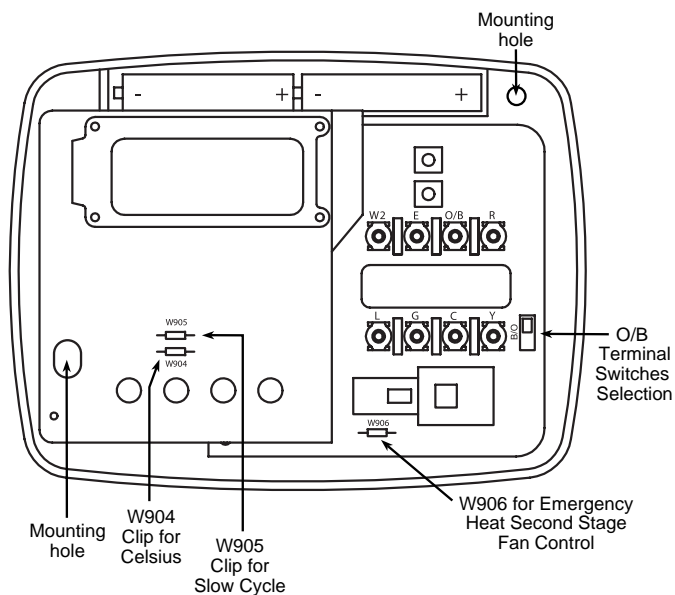

Figure 1. Thermostat base
If your emergency or auxiliary system will energize the blower, then jumper W906 on the thermostat base must be cut (see fig. 1).
5. Fasten base loosely to wall, as shown in fig. 1, using two mounting screws. Place a level against bottom of base, adjust until level, and then tighten screws. (Leveling is for appearance only and will not affect thermostat operation.) If you are using existing mounting holes, or if holes drilled are too large and do not allow you to tighten base snugly, use plastic screw anchors to secure subbase.
This thermostat does not require batteries to operate. The 2 "AAA" alkaline batteries are for the thermostat to remember the programming if AC voltage is lost. If the display shows **BATT** when AC power is not present, the batteries are low and should be replaced with fresh "AAA" Energizer® alkaline batteries. To replace the batteries, install the batteries along the top of the base (see fig. 1). The batteries must be installed with the positive (+) ends to the right.